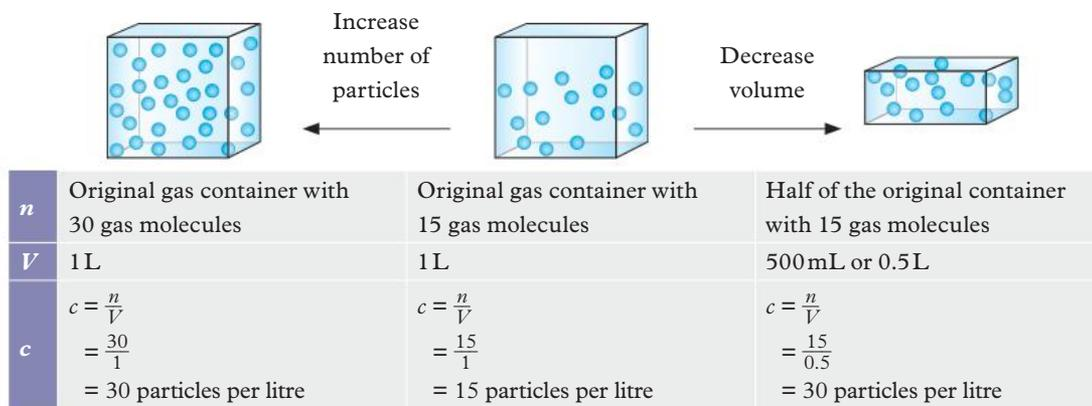

FIGURE 8 The effect on concentration when pressure is increased by increasing the number of particles or decreasing the volume
- 1 Decreasing the volume of the container – this pushes the particles closer together and results in a greater number of particles per unit of volume (Figure 8). For example, the concentration of 1000 oxygen molecules in a 1 L container is lower than that of 1000 oxygen molecules in a 100 mL container.
- 2 Increasing the number of particles within the container – in a fixed-volume system, the volume cannot be decreased. Therefore, to increase the pressure, more gas particles must be added to the container, which increases the number and concentration of particles (Figure 8).